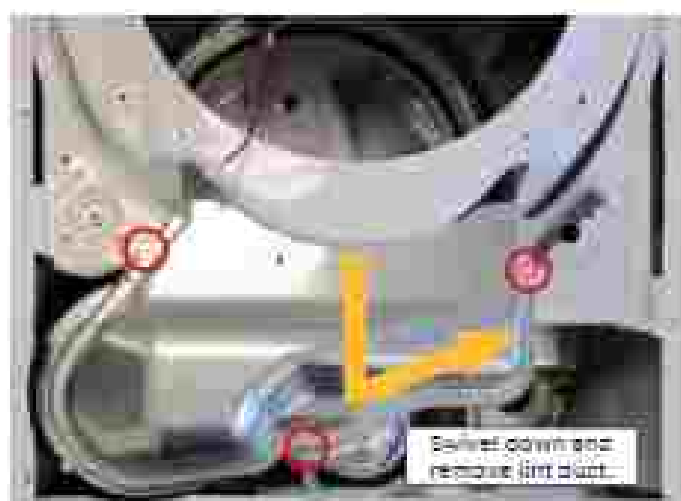

Figure 3 - Remove lint duct screws.
6. Remove the three (3) 1/4" hex-head screws from the lint duct as illustrated in Figure 3. Swivel the lint duct down from the bulkhead and remove.